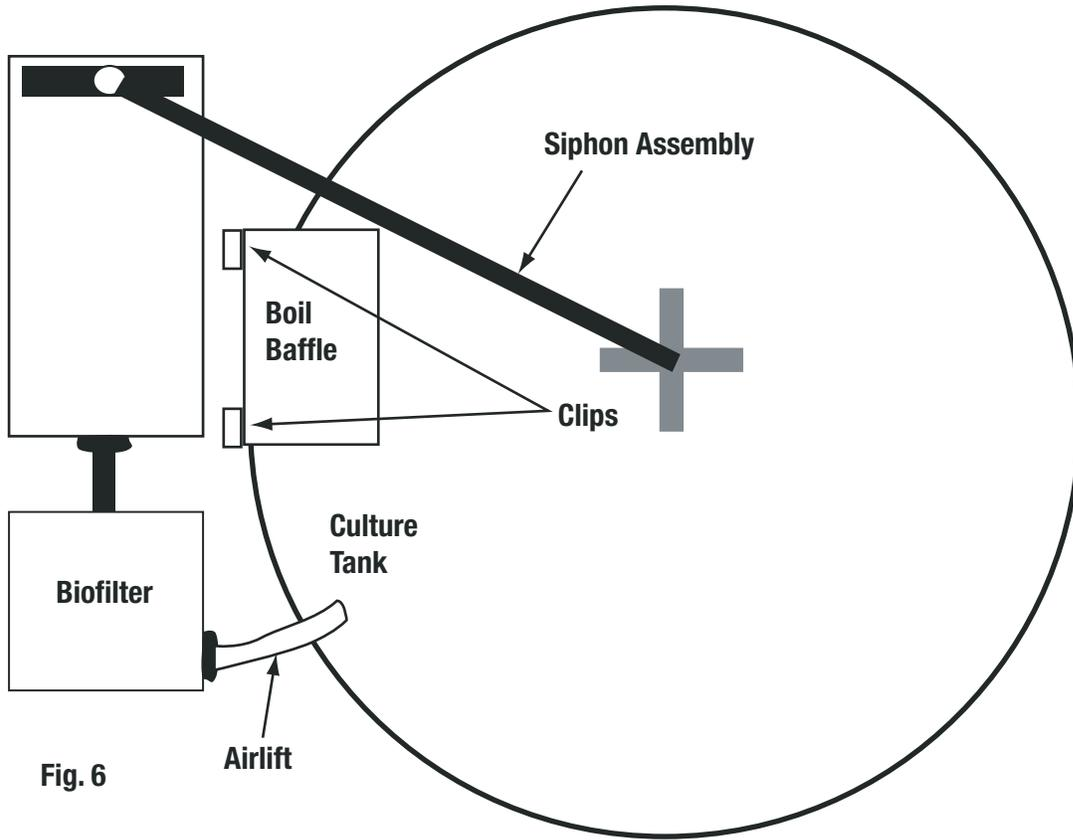

Fig. 6
- G. **Boil Baffle/Diffuser Assembly:** Using attached clips, this assembly hangs on the inside of the tank wall near the mid-line of the clarifier (Fig. 6) with air diffusers suspended off the bottom. Be sure to remove cardboard from diffusers before installation.